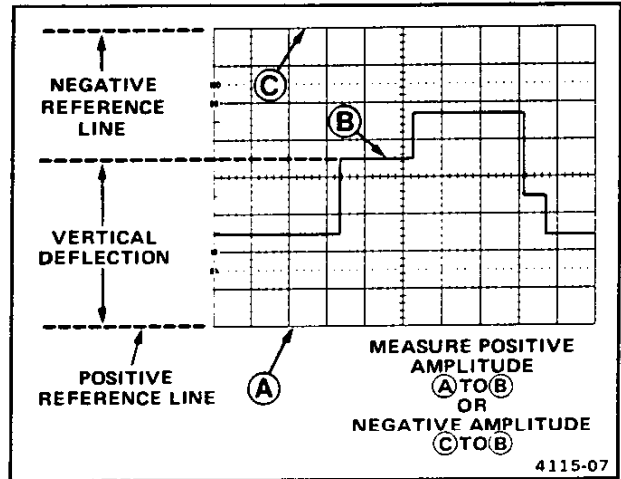

Figure 12. Instantaneous voltage measurement.
11. Measure the divisions of vertical deflection between the reference line and the desired point on the waveform at which the dc level is to be determined (see Figure 12).
**EXAMPLE:** The measured vertical deflection from the reference line is 4.6 divisions (see Figure 12), the waveform is above the reference line, the VOLTS/DIV switch is set to 2, a 10X attenuator probe is being used, and the A TRIGGER SLOPE switch is set to  $\swarrow$  (plus).